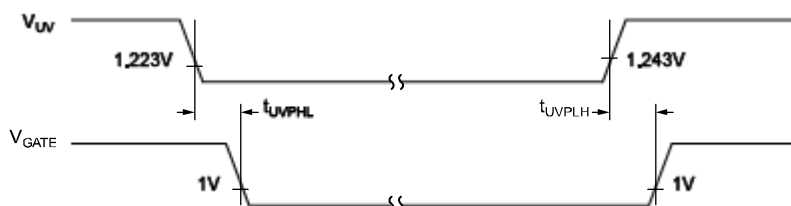

Figure 4. MIC2589/MIC2589R Undervoltage Response
| t UVPHL   | UV Low to GATE Low (8) ,(MIC2589 and MIC2589R)Figure 4  | UV = 1.0V                                                          |     | 1   |     | μs    |
| t UVPLH   | UV High to GATE High (8)(MIC2589 and MIC2589R)Figure 4  | UV = 1.5V                                                          |     | 1   |     | μs    |